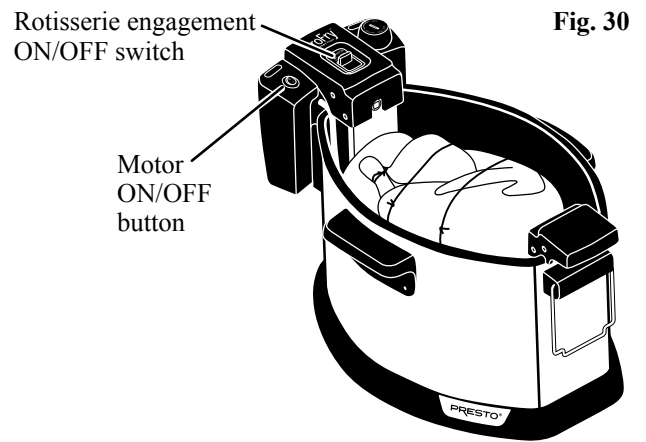

Fig. 30
Step 5 Turn the motor button to the ON position and slide the rotisserie engagement switch to the ON position. The rotisserie will engage the motor and the turkey will begin to rotate (Fig. 30). Allow the turkey to rotate for 1 to 2 complete revolutions, making sure it rotates fully and does not come in contact with the inside of the fryer.
Step 9 Turn the motor button to the ON position and slide the rotisserie engagement switch to the ON position. The rotisserie will engage the motor and the turkey will begin to rotate (Fig. 30).